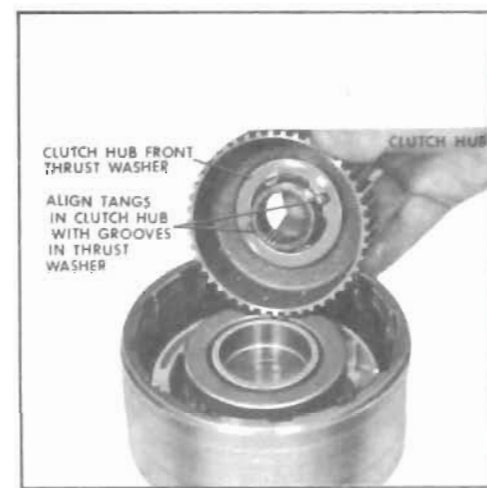

Figure 5-231
8. Install clutch hub front thrust washer to clutch hub (retain with grease) aligning tangs in clutch hub with grooves in thrust washer. Install clutch hub. See Figure 5-231.